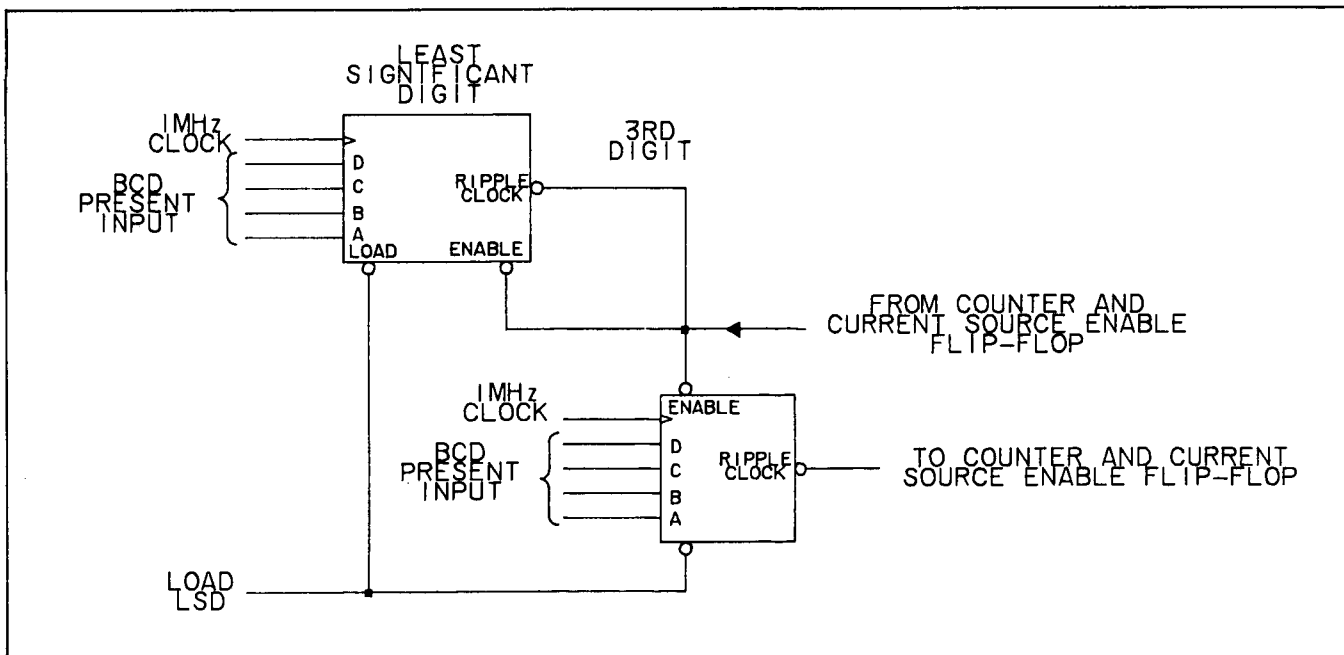
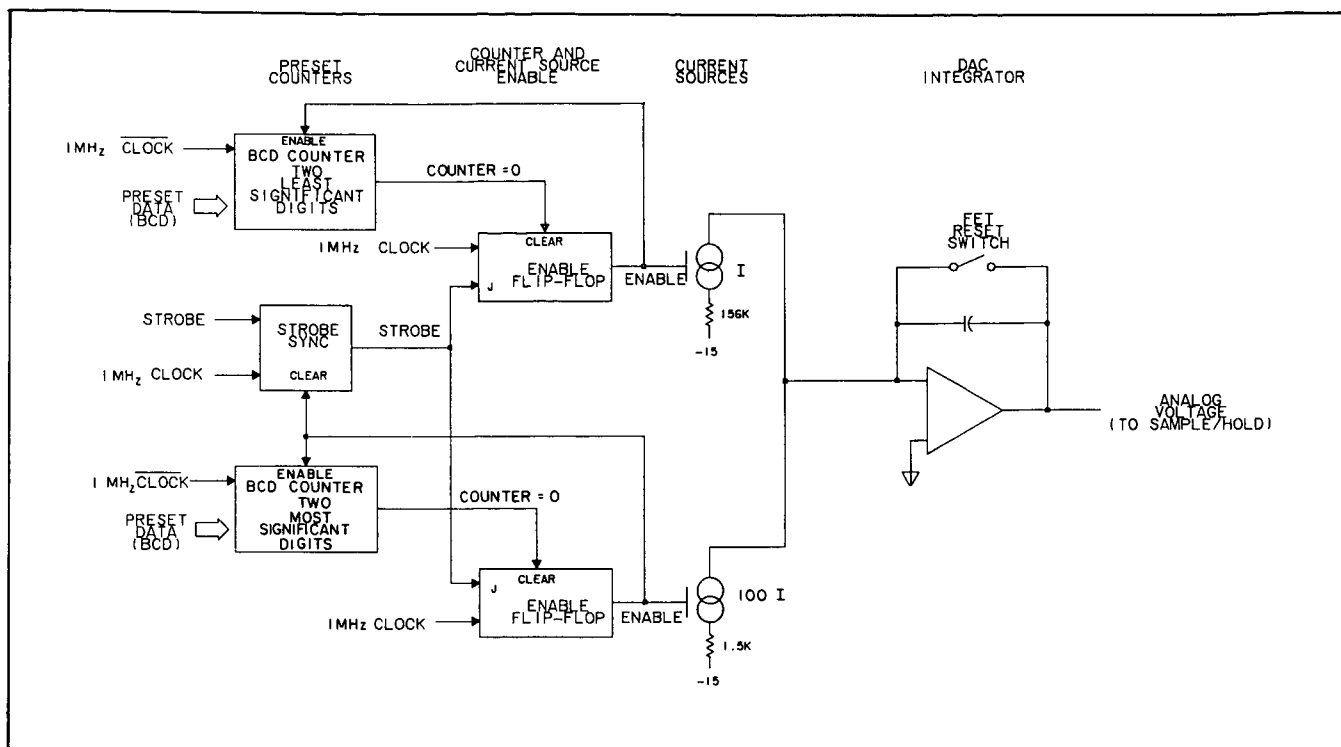

Figure 8-15. Preset Counters.
Figure 8-16. Digital-to-Analog Converter.
**8-59. Preset Counters.** Each of the four Preset Counters is a BCD counter that can be pre-loaded with a 4-digit binary number and then enabled to count from that point. In this application, they are set to count down. The counters are connected in two pairs, as illustrated by the least significant pair in Figure 8-15. Both counters are loaded at the same time, then the Least Significant Digit (LCD) Counter is enabled by the Counter and Current Source Enable Flip-Flop; and at the same time, the LSD Current Source is enabled to supply current to the DAC Integrator (see Figure 8-16). When the LSD Counter reaches zero, its Ripple Clock output enables the 3rd Digit Counter to count one clock pulse. If the preset number in the 3rd Digit Counter was greater than one, the LSD Counter continues to count, supplying an enable pulse to the 3rd Digit Counter each time it reaches zero. When the 3rd Digit Counter reaches zero, its Ripple Clock output changes the state of the Counter and Current Source flip-flop, disabling the LSD Counter and the Current Source.
**8-60. 4-Digit D/A Conversion.** A simplified diagram of the D/A Converter is shown in Figure 8-16. The D/A Converter (DAC) Integrator output voltage is proportional to the four digits of BCD information that is loaded into the Preset Counters. The two current sources are enabled to supply constant current to the DAC Integrator for the length of time required for the Preset Counters to count down from the preset number to zero. The current resulting from the two most significant digits is proportionally 100 times that from the two least significant digits. For example, if the 4-digit preset number were 5555, the enable time would be the same for both current sources, but the current ratio would be 100 to 1.